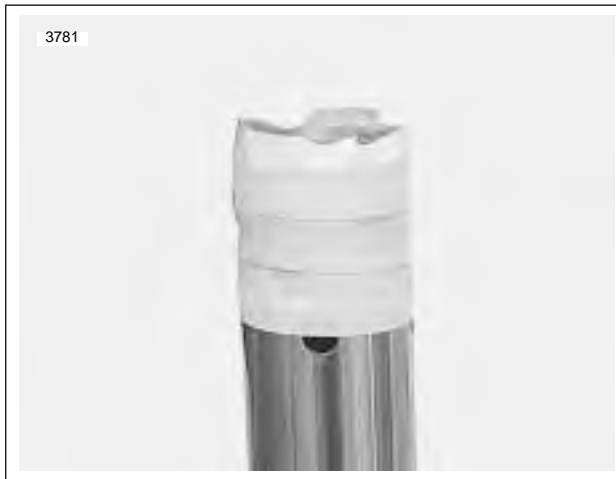

Figure 2-87. Slider Tube Protection
11. See Figure 2-87. Wrap the end of the slide pipe and the slide bushing channel with tape to avoid damaging the oil seal lip when installing.